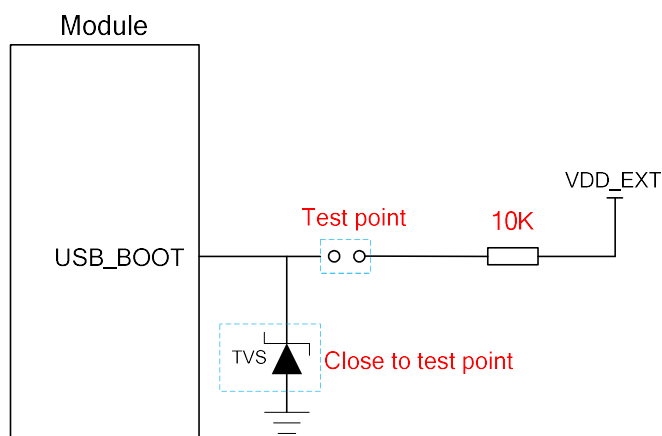

Figure 23: Reference Design of USB_BOOT Interface
3. When using MCU to control the module entering emergency download mode, please follow the above timing sequence. Connecting the test points as shown in **Figure 23** can manually force the module to enter download mode.